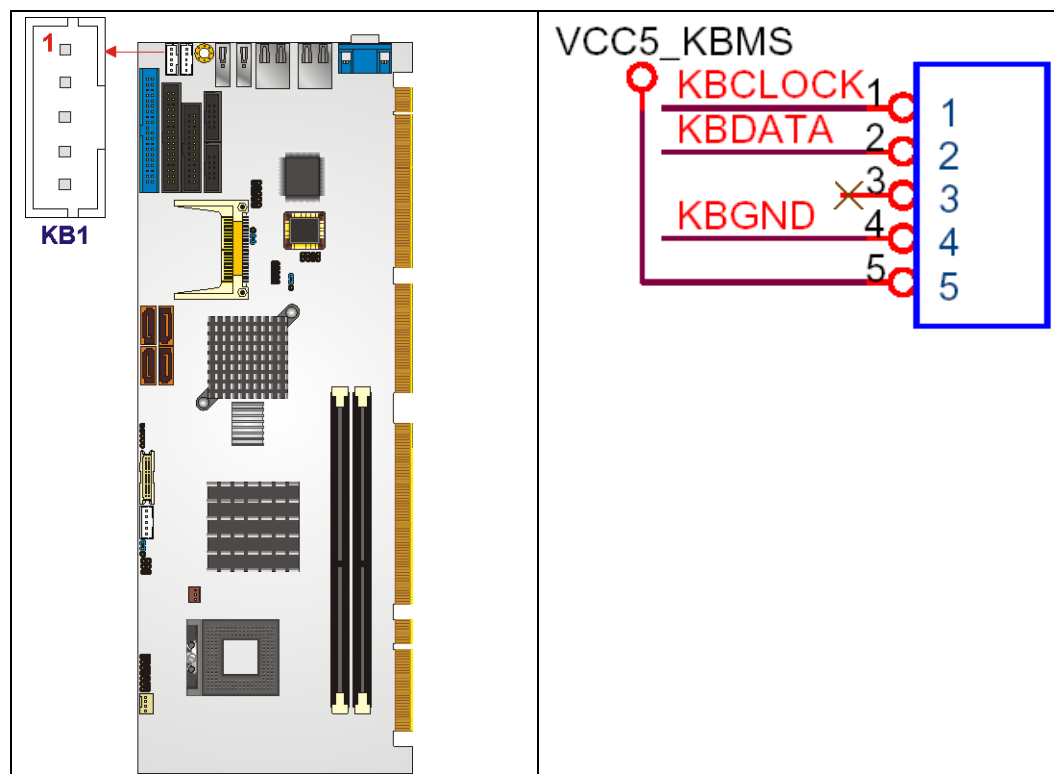

Figure 4-12: Keyboard Connector Location
- CN Location:** See Figure 4-12